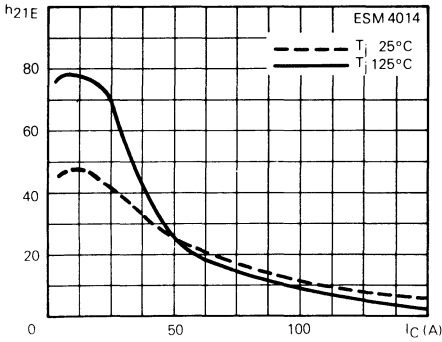

Fig.1 : DC current gain.
**SWITCHING TIMES ON RESISTIVE LOAD - TEMPS DE COMMUTATION SUR CHARGE RÉSISTIVE (Fig. 1)**